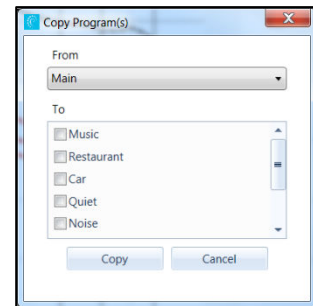

Figure 36: Copy Programs
- Programs can be swapped and copied from one to another using the Copy Program(s) menu featured in the Tuning tab (Figure 36).